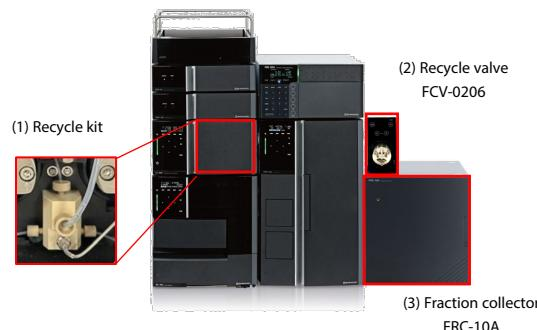

Fig. 2 System setup for recycle fractionation
Nexera lite analytical HPLC system or Nexera GPC analytical GPC system can be expanded into a recycle fractionation system. Taking Nexera GPC system as an example, adding (1) a recycle kit, (2) a recycle valve, and (3) a fraction collector to the standard configuration enables not only GPC analysis but also recycle fractionation. Using a single instrument for both analysis and recycle fractionation maximizes equipment utilization. Fig. 2 shows an example configuration of recycle fractionation system based on Nexera GPC.